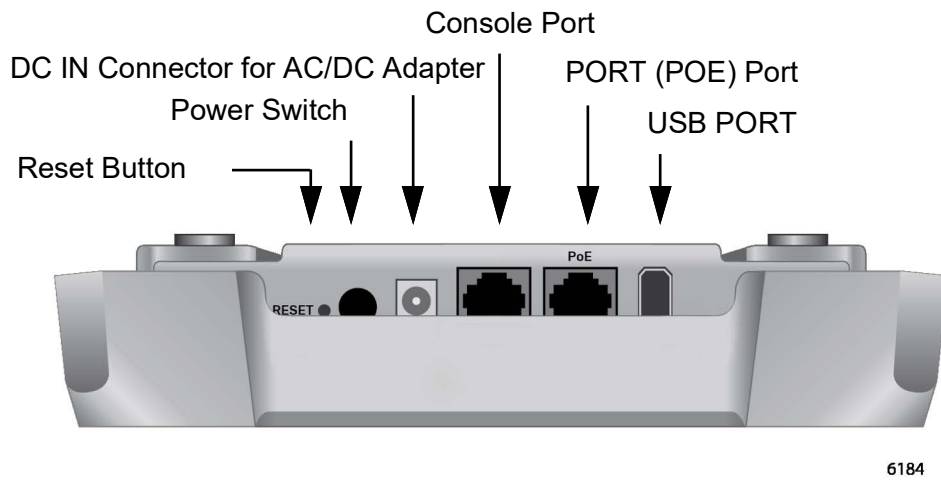

Figure 4. Back Edge View
The back edge view is illustrated in Figure 4.
**Power Switch** The Power Switch on the back panel in Figure 4 on page 13 turns On or OFF the access point when power is supplied to the access point only from the AC adapter, not from PORT (POE) port.
The access point has a Reset button on the back edge in Figure 4 on page 13 for returning the parameter settings of the device to their default values. You might reset the access point if you want to discard its current configuration or if you forgot the manager password and so cannot manage the device.